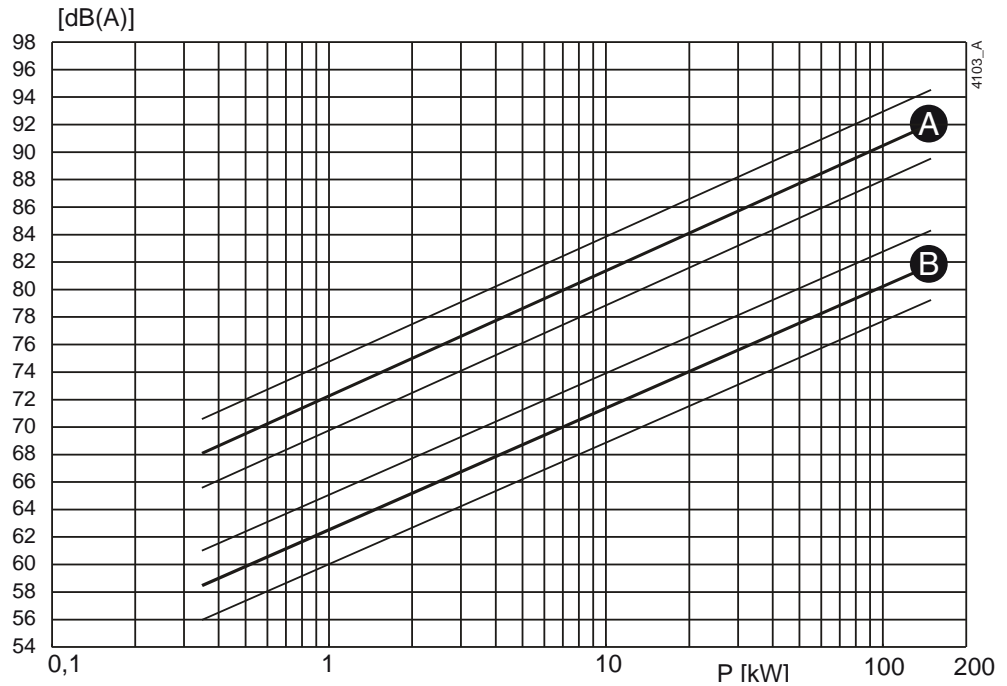
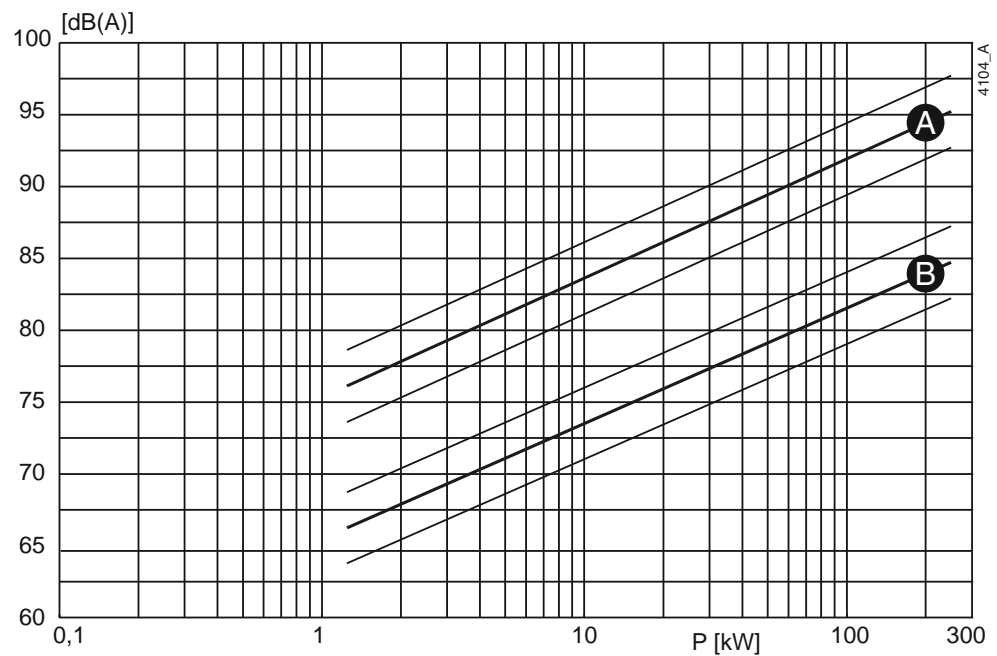

Figure 31: Noise level as function of pump power [kW] at 1450 min⁻¹
Figure 32: Noise level as function of pump power [kW] at 2900 min⁻¹
- 1 Determine the noise level (L1) of the pump, see figure 31 or figure 32.